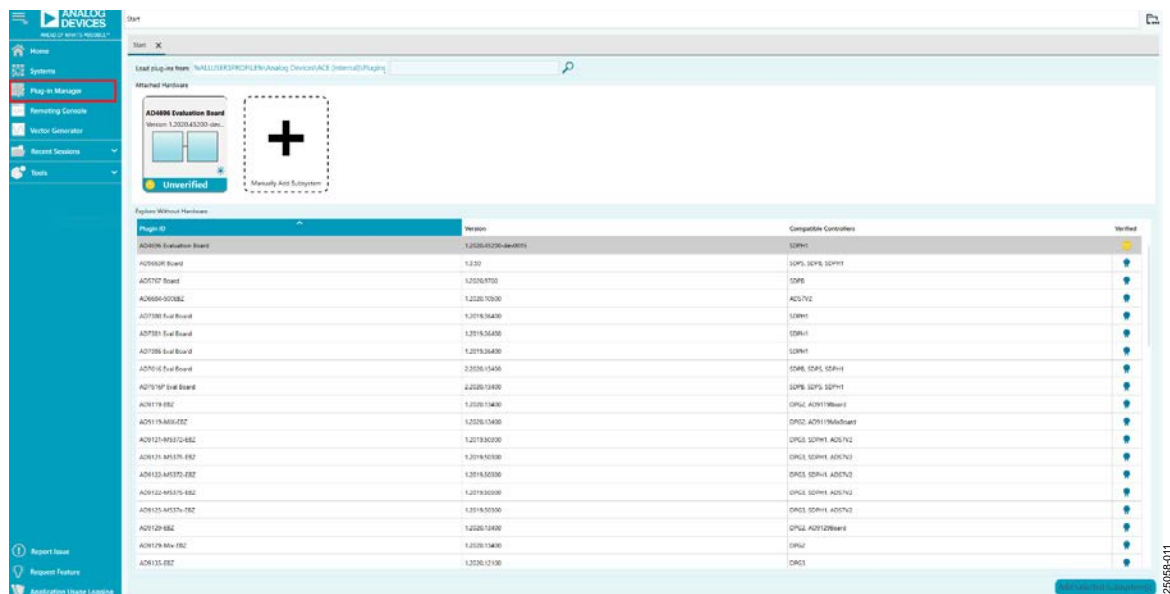

Figure 10. Selecting **Plug-in Manager**
2. To install the AD4696 ACE plugin, click **Plug-in Manager** on the left of the ACE main window, as shown in Figure 10.
1. Click the **Plug-in Manager** on the left of the ACE main window, as shown in Figure 10.